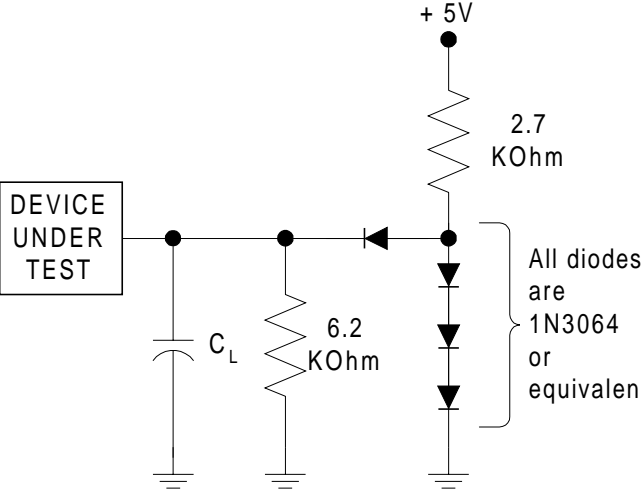

Figure 11. Test Setup
2. See Figure 11 and Table 7 for test conditions.